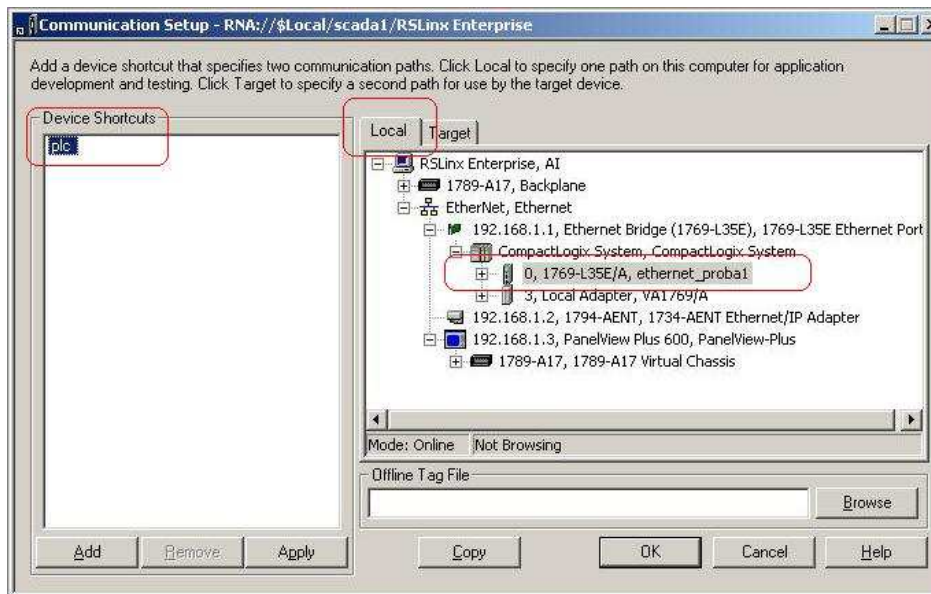

Fig.33. The Communication Setup window
6. Select **Create a new configuration**, and click the **Finish** button – the window **Communication Setup** will appear (Fig. 33). Select **Local** tab and create new **Device Shortcuts** – **Add** button.